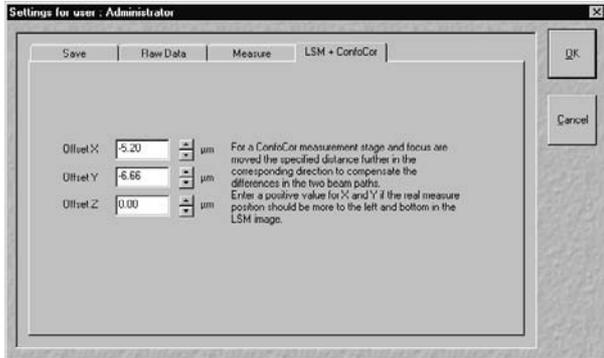

**Fig. 5-398** LSM image of the Rh6G layer after bleaching. Deviations between the markers and the bleached spots are noticeable.
- Once the scan is finished you see the bleached spots (see Fig. 5-398).